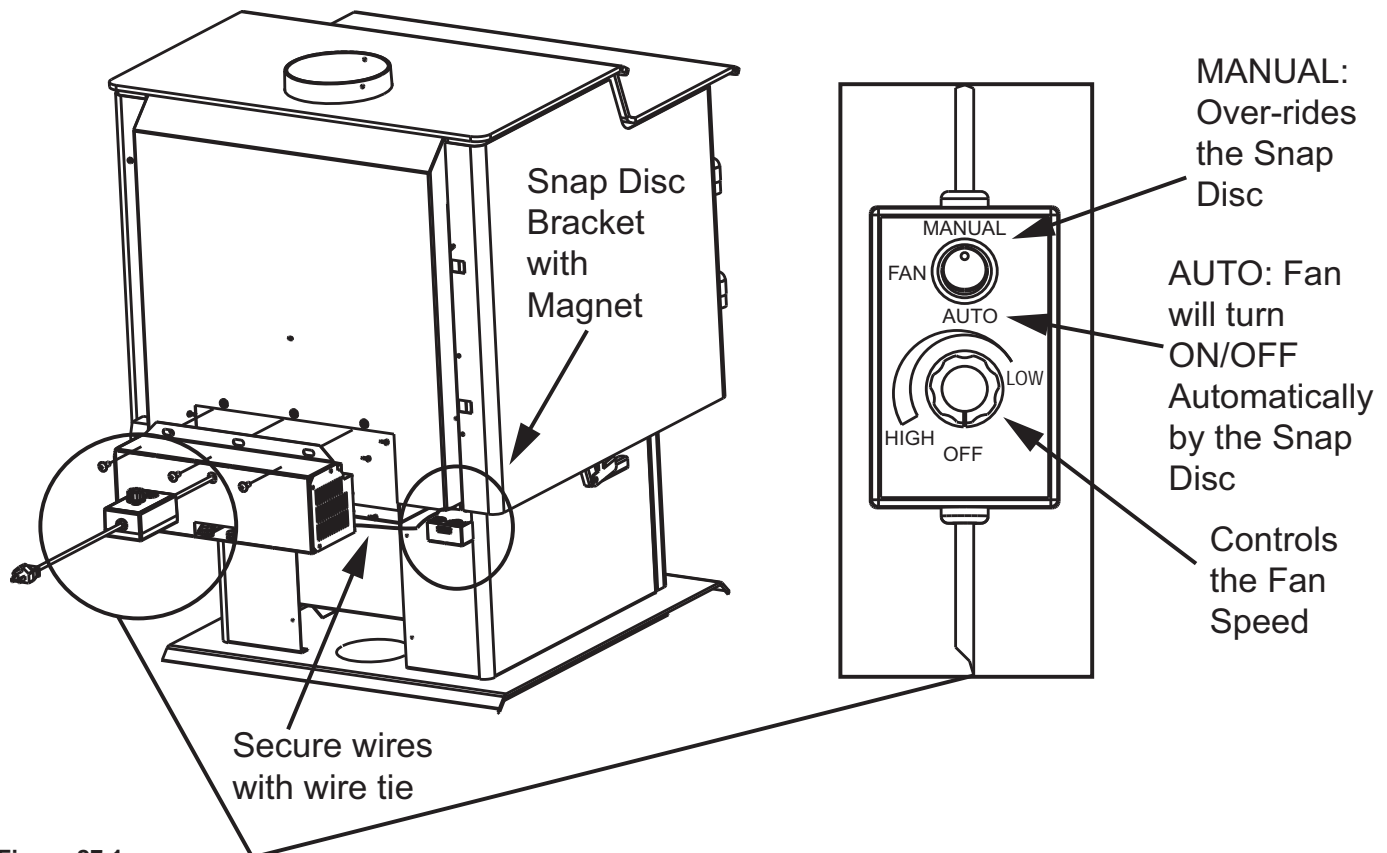

Figure 27.1
2. Align holes in mounting flange of blower with bolt holes in appliance. Blower should be positioned at bottom of rear outer skin as shown in **Figure 27.1**